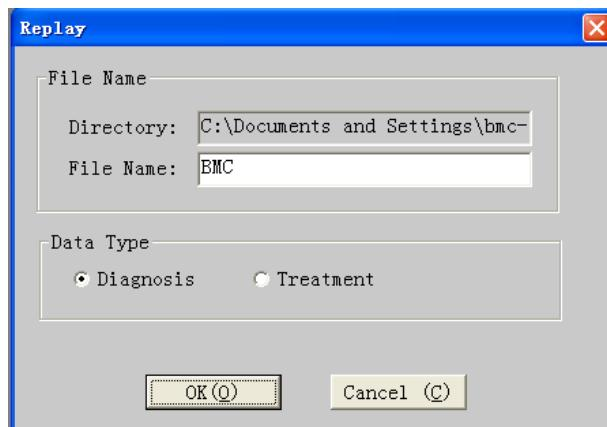

Figure 2-5 "Replay" dialog box
⑥Recording start time is set by the system at the beginning of the recording time which is confirmed by the internal clock. If YH-600B Pro clock is not correct, modify it in the above login screen. The recording end time defaults to 12 hours after the recording starts. In fact, in the process of data transmission, the system can automatically identify the actual end time of record. YH-600B Pro will automatically stop after data transmission is finished. So there is no need to change the recording end time in normal situations.
⑦Enter patient information one by one. Click "OK" button and "Replay" dialog box pops up (Figure 2-5).